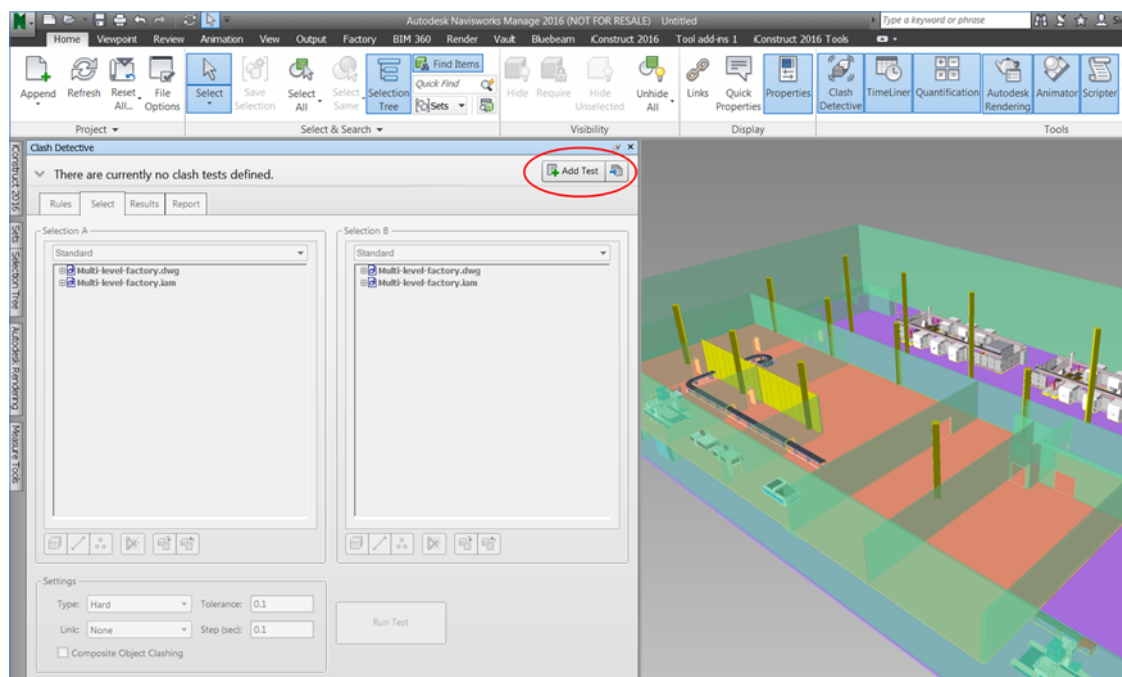

FIGURE 14: ADDING A CLASH TEST
3. From the top right of the **Clash Detective** window, click **Add Test**, as shown in Figure 14.